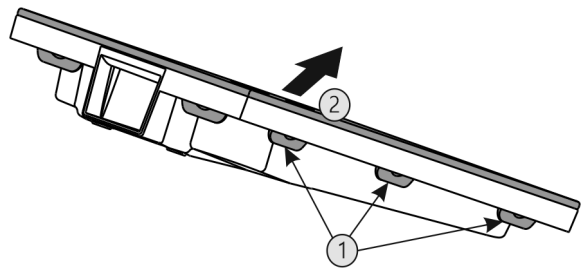

Fig. 61
- ▶ Press all lugs Fig. 61 (1) in succession and remove the lid Fig. 61 (2).